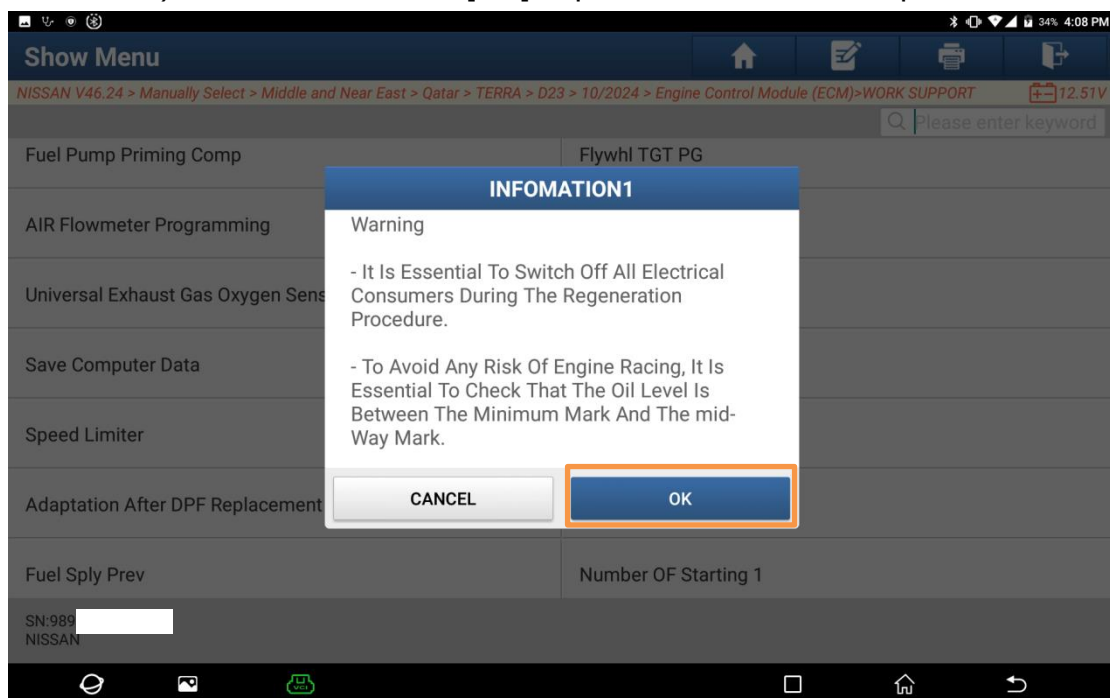

Figure 16
12. Carefully read the pop-up prompt information in Figure 16. Before executing the function, ensure that the engine oil level is between the minimum and middle marks to avoid the risk of engine overspeeding. During regeneration, ensure that all electrical loads in the vehicle (such as the A/C) are turned off. Click [OK] to proceed to the next step.